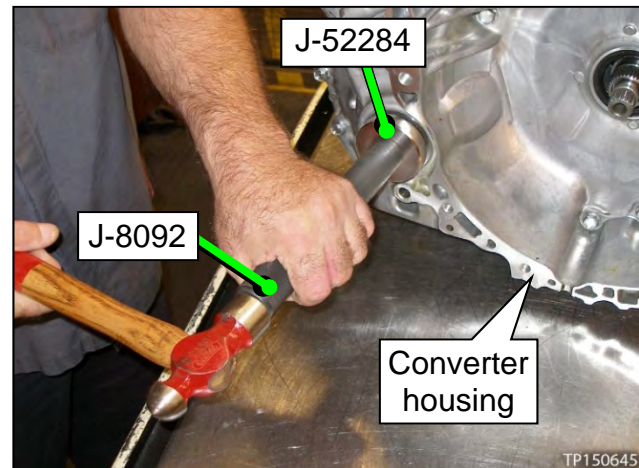

Figure 160
**NO:** Install the torque converter housing side axle seal (Figure 160).